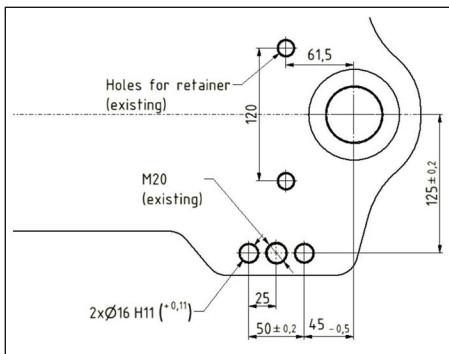

Figure 5 – Installation drawing
## Installation: (see Figure 5)
- Drill two  $\varnothing 16$  H11 holes into the ball-type drawbar according to the drawing below (see Figure 5) on the side, where the forced steering device should be fixed. In some ball-type drawbars you can find a countersink at the position where the  $\varnothing 16$  hole should be placed.